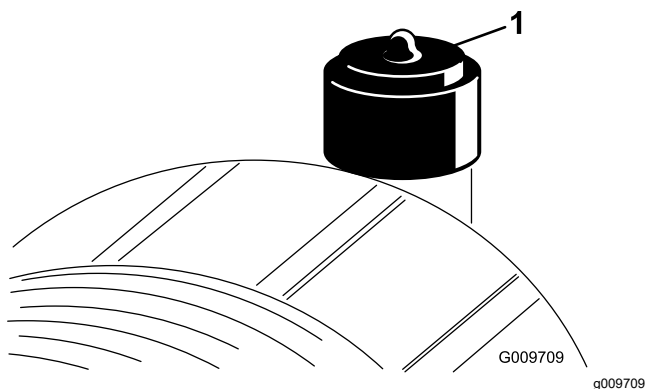

Figure 68
Service the air-cleaner filter only when the service indicator requires it (Figure 68). Changing the air filter before it is necessary only increases the chance of dirt entering the engine when you remove the filter.
2. Reset the indicator (Figure 68) if it shows red.